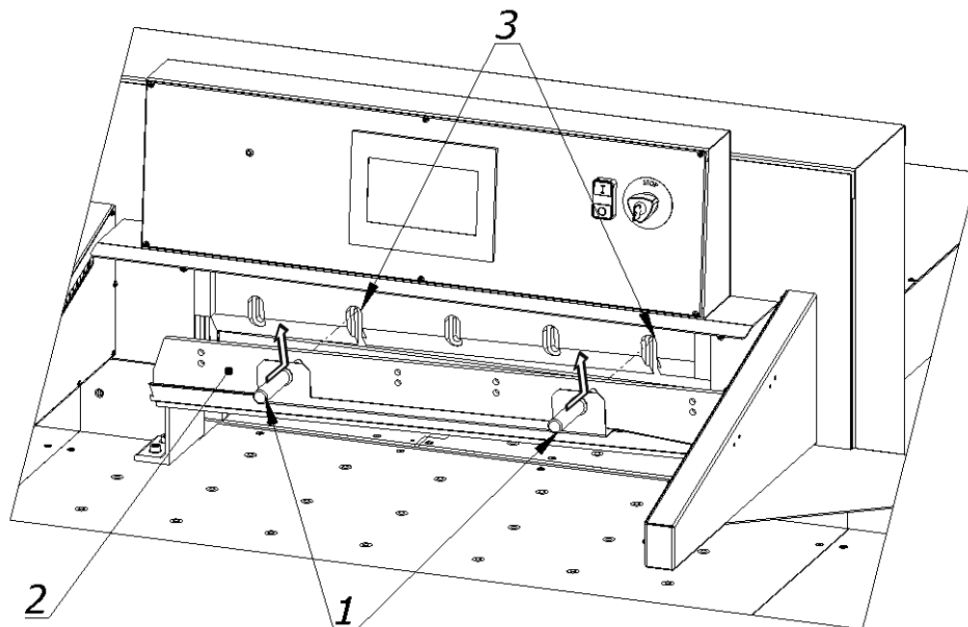

Figure 31
8.1.2.3. Holding the transport handles 1, insert the knife 2 into the cutter so that the transport handles screwed into the knife hit the cutouts in the cutter bar 3. (fig.31)